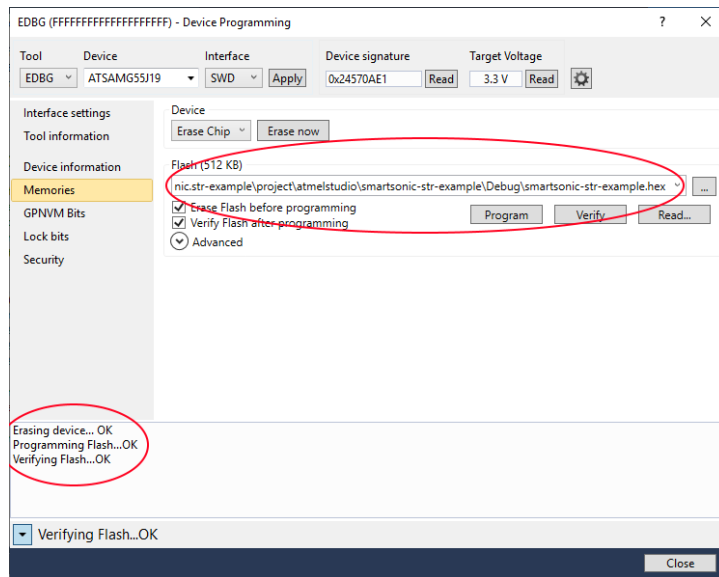

Figure 4. Successful Programming
6. Select **Program**. Your SmartSonic board is successfully programmed when the Device Programming screen displays the "OK" messages shown Figure 4 on the bottom left: